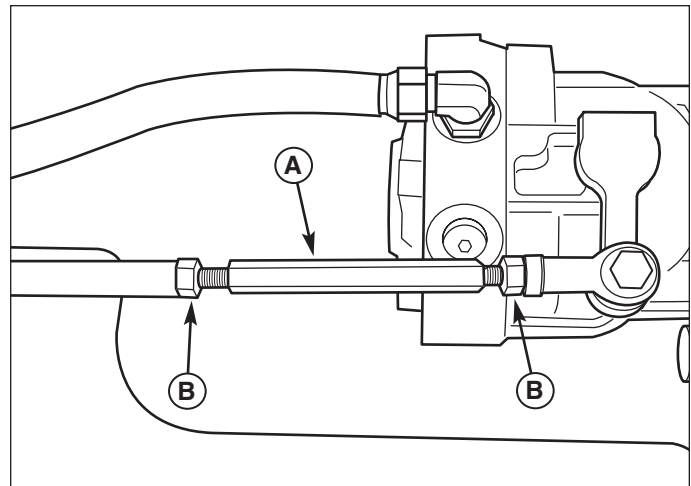

Figure 32. Neutral Adjustment
2. Loosen the jam nuts (B, Figure 32) and turn the adjustment linkage (A) to adjust. If the machine creeps forward, turn the linkage CLOCKWISE (while standing at the rear of the machine, facing forward), if the machine creeps backward, turn the linkage COUNTER-CLOCKWISE.
3. Lock the jam nuts (B) when neutral is achieved.